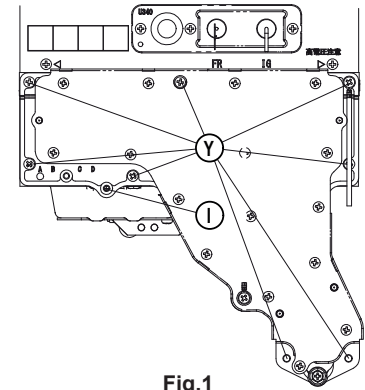
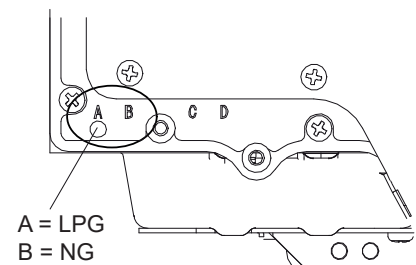

Fig.1
Fig.2
2. Disconnect the ignitor from manifold ("I" - Fig.1).
3. Replace the gas manifold with the new suitable component (the manifold is fastened by the screws indicated with "Y" - Fig.1). Manifold's gas type can be checked by the letter marked as in Fig.2.